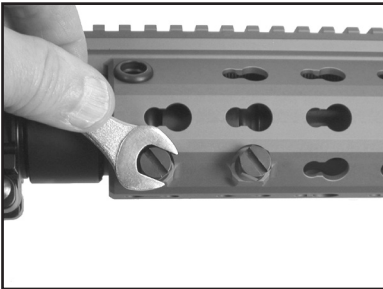

Fig. 74 – Tightening the locking screws
2. Tighten the locking screws. The 11 mm (7/16") hex screws allow a variety of wrenches or screw drivers to be used for installation or removal. **DO NOT OVERTORQUE.** (Fig. 74 & 75)